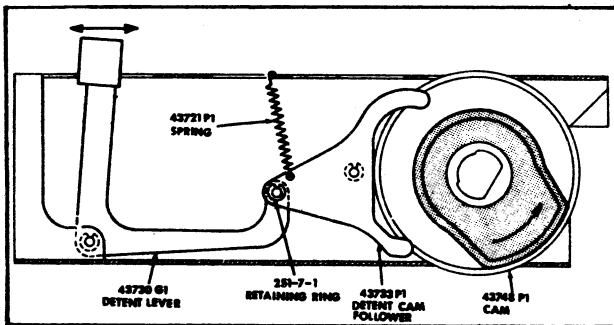

Figure 4. TRAY LOCATOR-CAM #1
c. Make a test slide approximately 0.015 to 0.020 inches thick (use 1/2 of cardboard folded type slide mount). Insert the slide and run it through a complete cycle. The shutter should open. Repeat cycle without slide, the shutter not open. If the shutter does not perform as specified, bend point "A" (tab on slide clamp, figure 4) to accomplish this performance standard.
- c. The tray locator controlled by cam #1 (Fig. 4) starts to pull back.